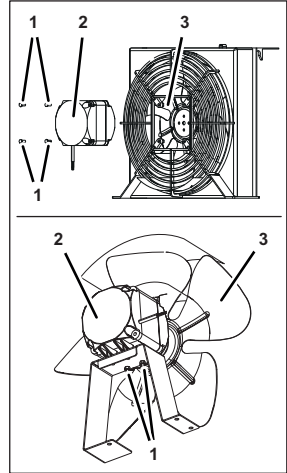

Figure 124
4. Remove the fan blade (Figure 124/3) from the fan motor (Figure 124/2).
5. Remove the fastening bolt/the fastening nuts (Figure 124/1) from the fan motor (Figure 124/2).
6. Attach the new fan motor (Figure 124/2) using the fastening bolts/fastening nuts (Figure 124/1).
7. Attach the fan blade (Figure 124/3) to the fan motor (Figure 124/2).